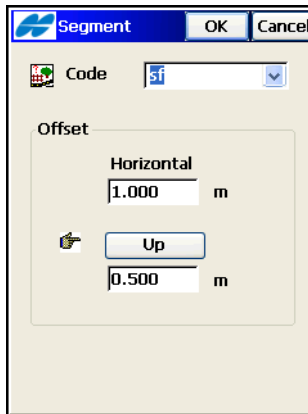

Figure 7-24. Segment
4. On the *Segment* screen (Figure 7-24) enter the parameters of the segment (code and offset).